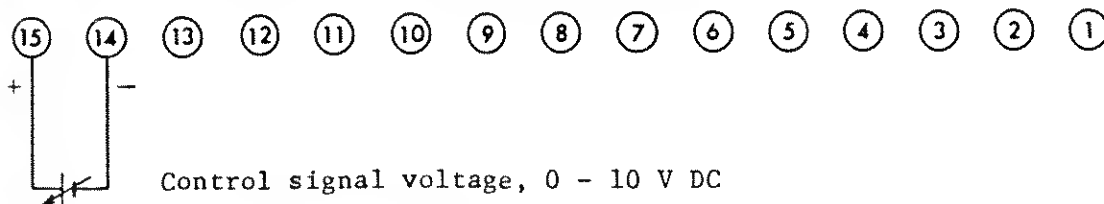

Figure 2-13-1
3. Apply the controlling voltage between terminals 14 and 15 on the rear panel, as shown in Fig. 2-13-1.